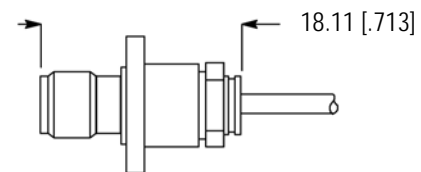

Figure 6
11. Inspect the jack according to Figure 6.